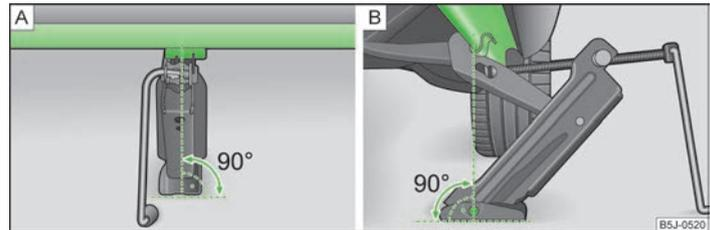

Fig. 158 Attach lifting jack
- Align the lifting jack so that its claw grasps the web » Fig. 158 - **B** under the marking.
- Ensure that the entire surface of the lifting jack base plate rests on level ground and is located in a vertical position to the area » Fig. 158 where the claw grasps the web.